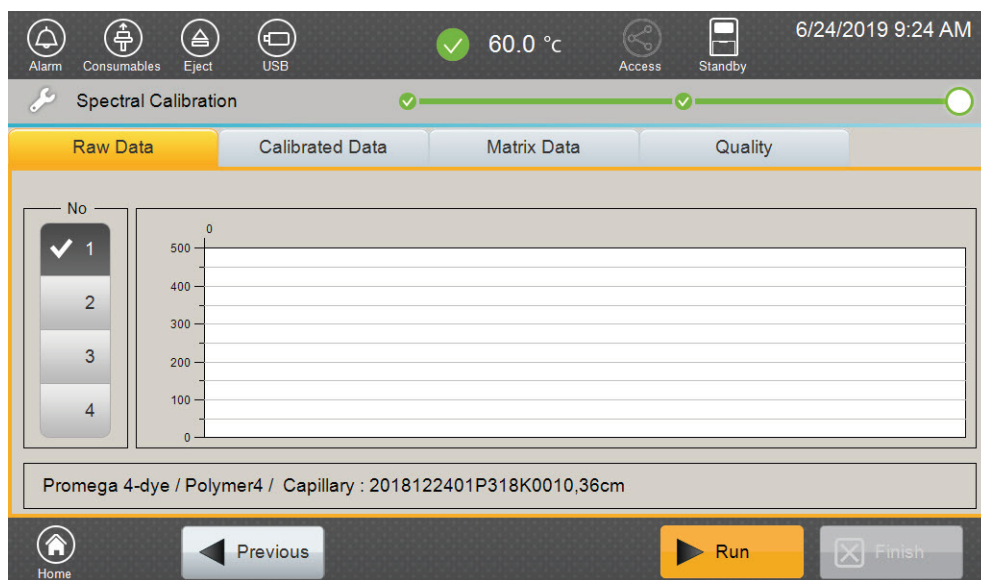

Figure 51. 'Spectral Calibration' screen.
- After the autosampler has returned to its home position, the 'Spectral Calibration' screen will automatically be displayed (Figure 51). Select **Run** to start the spectral calibration.